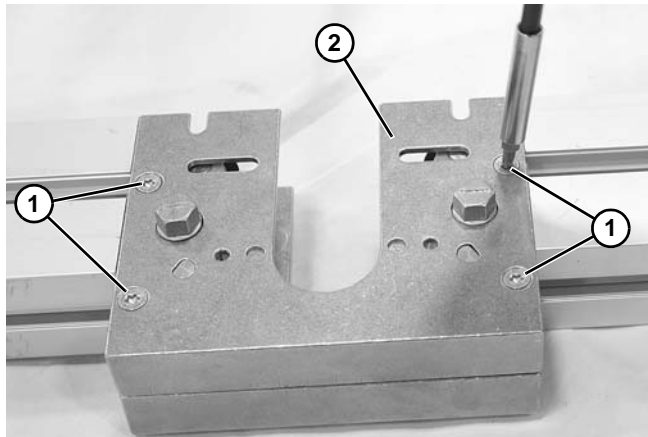

Figure 39
4. Remove torx screws (Figure 39, item 1) and mid drive side plate (Figure 39, item 2).